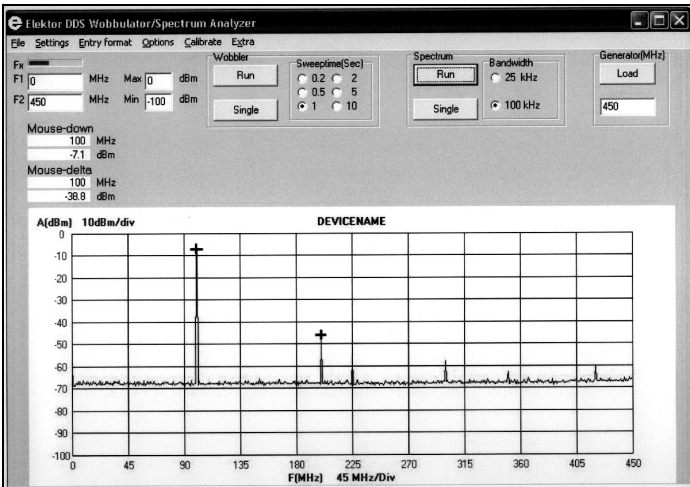

Fig 18: Measuring the harmonics of a 100MHz signal.
- Making a spectrum scan of a signal source. Fig 18 show a scan from 0 to 450MHz with a signal generator set to 100MHz. The fundamental plus several harmonics can be seen. Moving the mouse over the display area show the frequency and attenuation at the mouse cursor. Click and hold the mouse button on the fundamental then dragging the mouse to the first harmonic makes a delta measurement as shown.